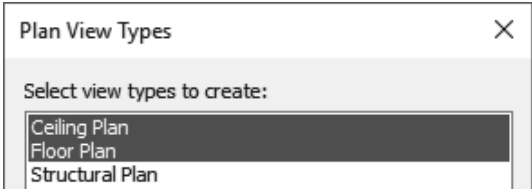

Figure 1-26
- 6. In the *Plan View Types* dialog box, click **Structural Plan** to deselect it (so that only the **Ceiling Plan** and **Floor Plan** view types are selected), as shown in Figure 1-26, and click **OK**.